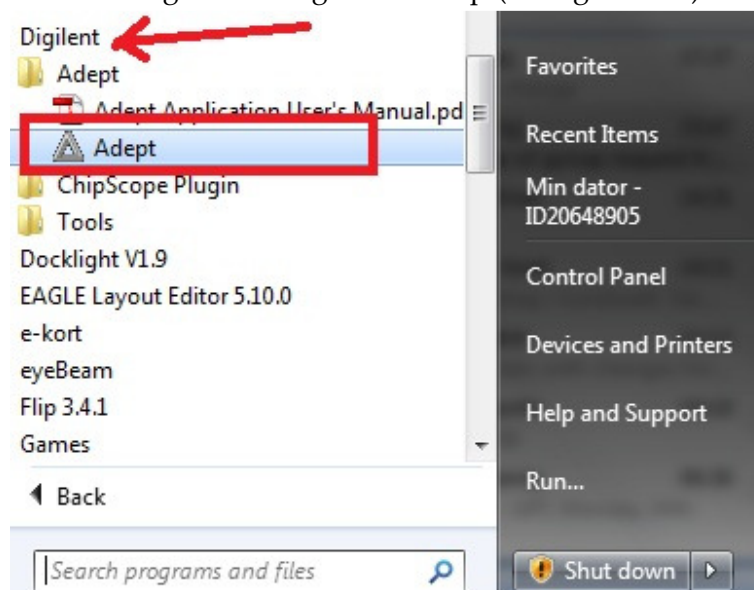

Fig 1.15
- Connect your NEXYS2 Board with Computer via USB cable and load the software from Startmenu>>Programs>> Digilent>>Adept(see figure 1.15)